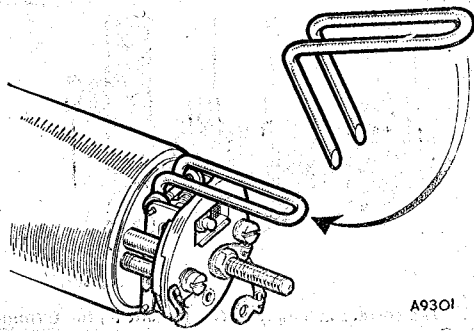

Fig. 8. Fitting the roller retaining fork
12. Press the centre of the armature and fit the retaining fork at the back of the rocker assembly (Fig. 8). This is done to prevent the rollers from falling out when the coil housing is placed on the bench prior to fitting the body, and is not intended to stretch the diaphragm before tightening the body screws.